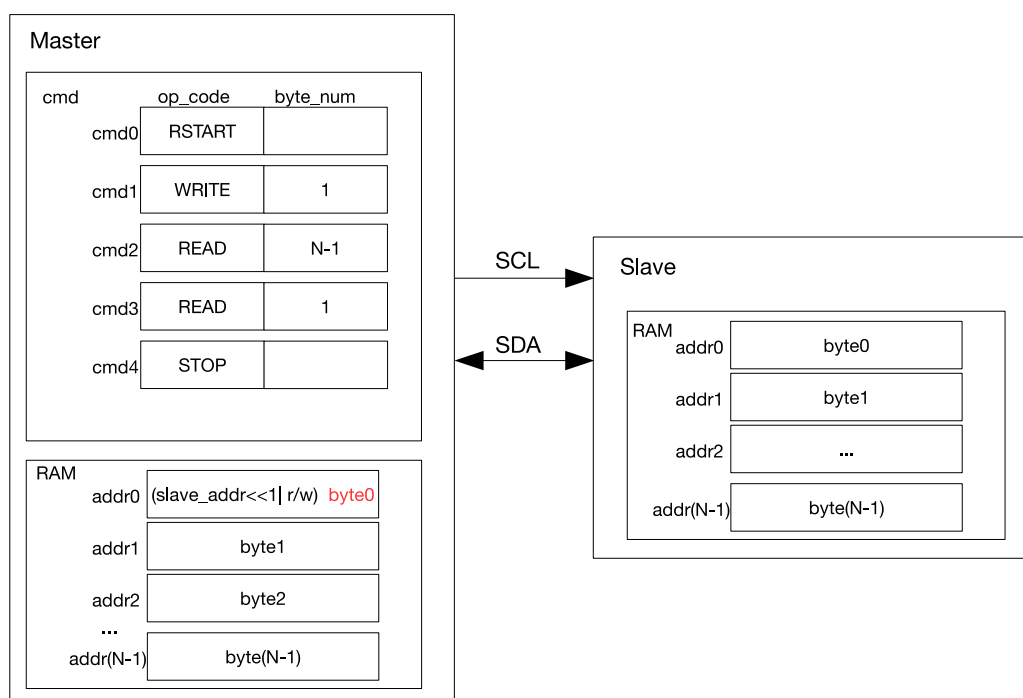

Figure 21.5-5. I2C_{master} Reading I2C_{slave} with a 7-bit Address
Figure 21.5-5 shows how I2C_{master} reads N bytes of data from an I2C slave's registers or RAM using 7-bit addressing. cmd1 is a WRITE_{master} command, and when this command is executed, I2C_{master} sends I2C_{slave} address. The byte sent comprises a 7-bit I2C_{slave} address and a R/\overline{W} bit. When the R/\overline{W} bit is 1, it indicates a READ operation. If the address of an I2C slave matches the sent address, this matching slave starts sending
As illustrated in Figure 21.5-5, I2C_{master} executes two READ commands: it generates ACKs for (N-1) bytes of data in cmd2, and a NACK for the last byte of data in cmd3. This configuration may be changed as required. I2C_{master} writes received data into the controller RAM from addr0, whose original content (a I2C_{slave} address and a R/\overline{W} bit) is overwritten by byte0 marked red in Figure 21.5-5.
1. The procedures for Segment0 is similar to Figure 21.5-5, except that the last command is an END.